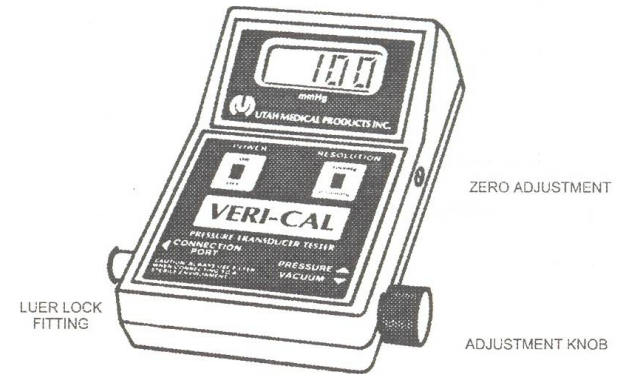

Figure 1
- d. If Veri-Cal's display does not read 000, turn the zero adjustment (located on the right side - Figure 1) using a small screwdriver.
- If Veri-Cal's display does not read 000, turn the zero adjustment (located on the right side - Figure 1) using a small screwdriver.